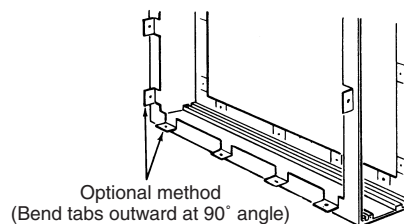

Figure 15
**NOTE:** An optional method of attaching duct to the cabinet is to modify the cabinet (Figure 15) by bending the tabs outward at a 90° angle and attaching duct to tabs.